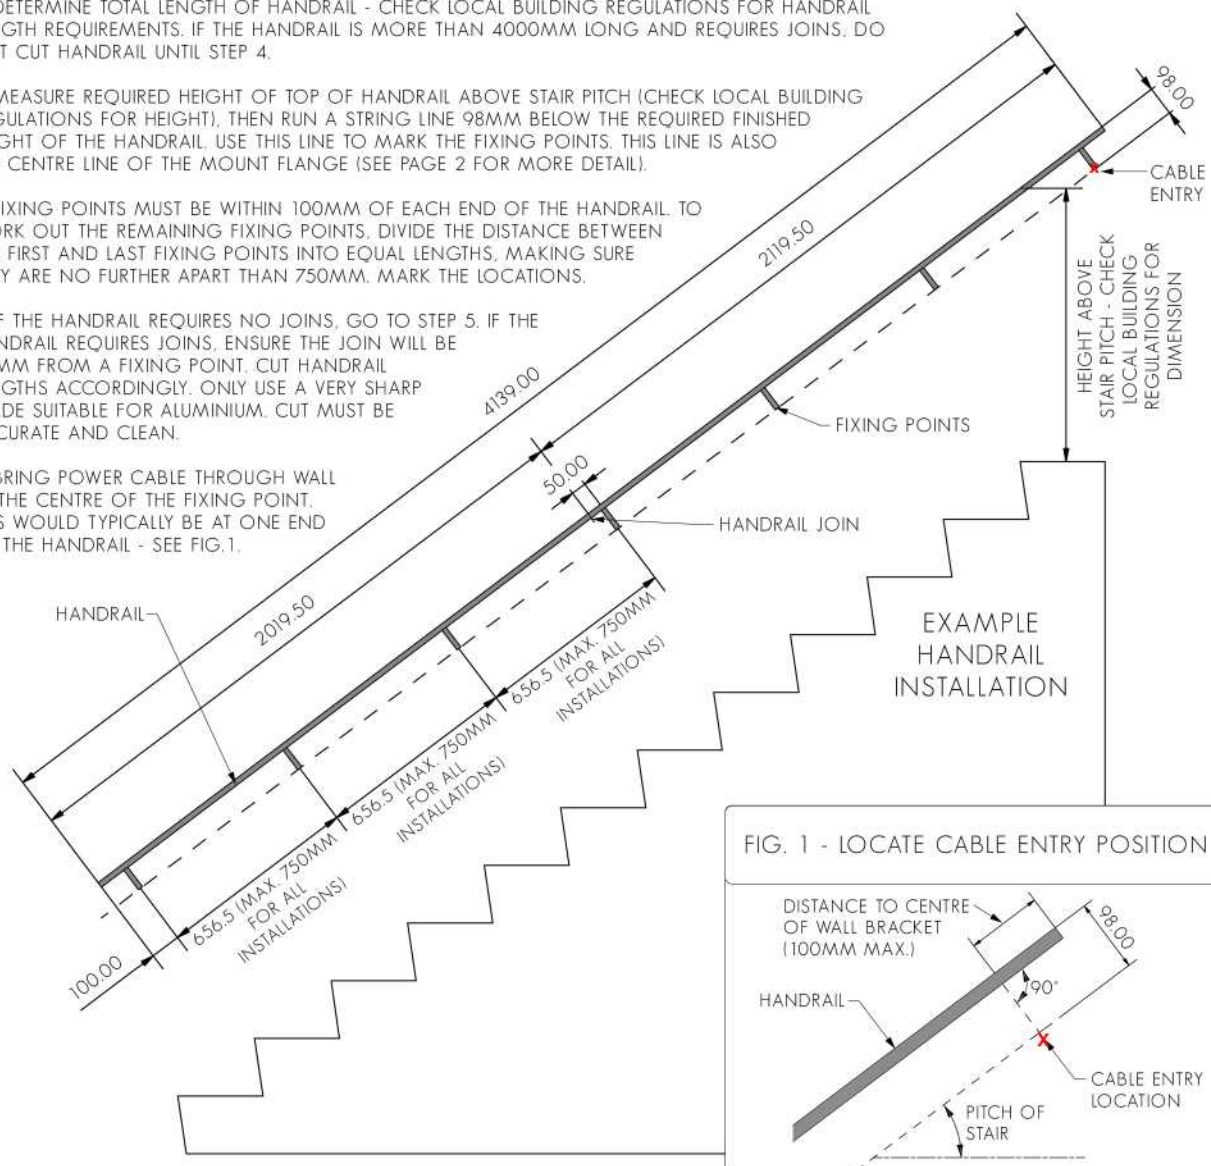

FIG. 1 - LOCATE CABLE ENTRY POSITION
5. BRING POWER CABLE THROUGH WALL AT THE CENTRE OF THE FIXING POINT. THIS WOULD TYPICALLY BE AT ONE END OF THE HANDRAIL - SEE FIG.1.